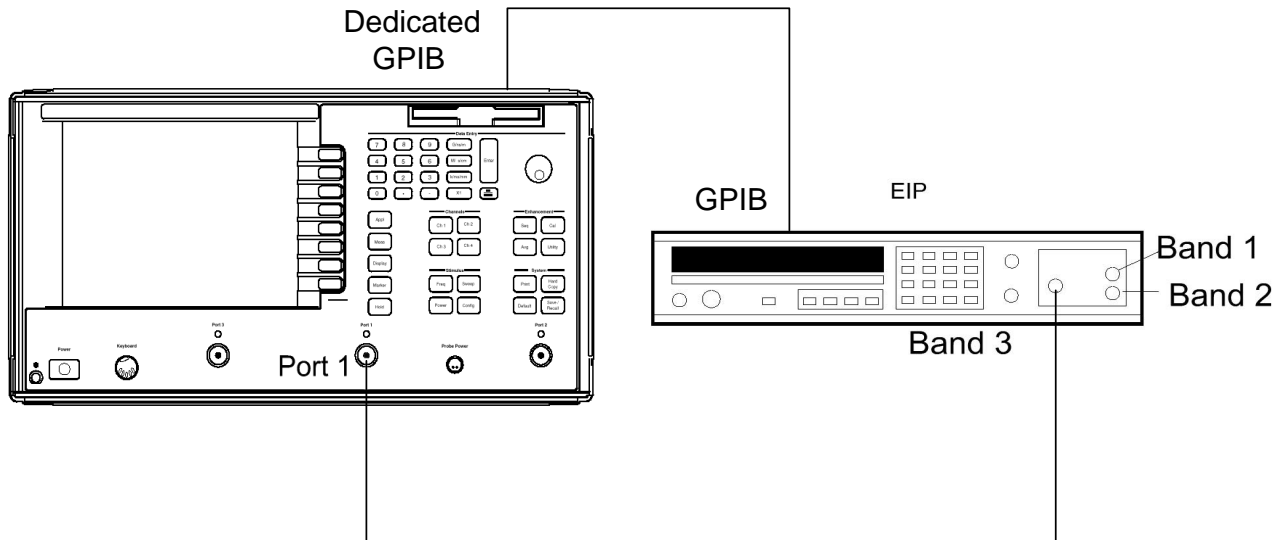

Figure 5-1. Automatic 10 MHz Calibration Setup
1. Connect a GPIB cable (Anritsu 2100-2) between the EIP frequency counter GPIB connector and the MS462XX dedicated GPIB connector, as shown in Figure 5-1.